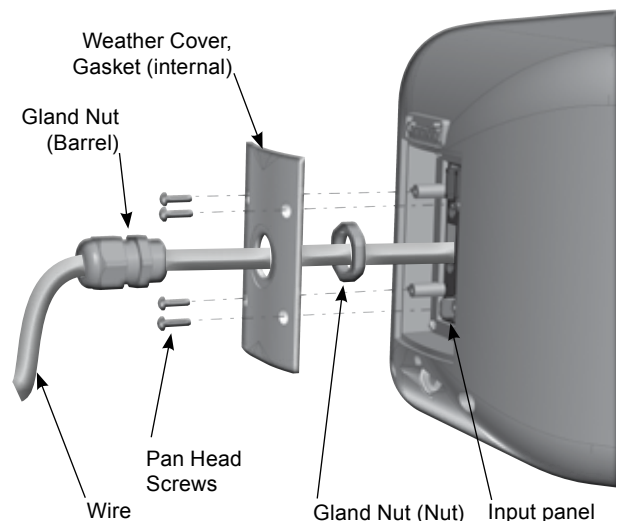

Figure 6. Weather cover attachment (*R.15 shown*)
- ❑ Secure the gland nut to the weather cover. Align the weather cover with the holes and attach using the provided pan head screws. See **Figure 6**.